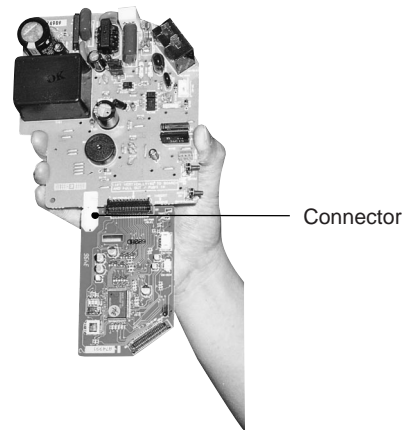

Fig. 15
3. Remove the connector as shown in Fig. 15.